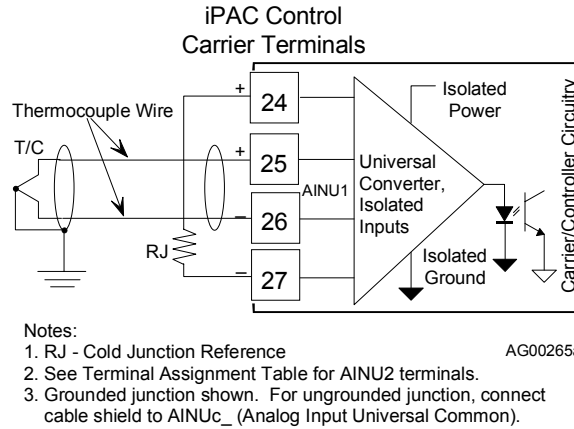

FIGURE 11 Universal Analog Input AINU1, Thermocouple Input
Thermocouple input wiring is shown in Figures 11 and 12. Shown first is lead preparation for the supplied reference junctions (RJ); a brief procedure is presented below. Wiring for a typical grounded tip thermocouple is shown next. If an ungrounded thermocouple is used, the thermocouple wire shield can be grounded at the control carrier. Thermocouple wire often has a solid conductor. Make connections as outlined in Analog Input section. Be sure that the solid conductor is satisfactorily clamped by the terminal screw and pressure plate.